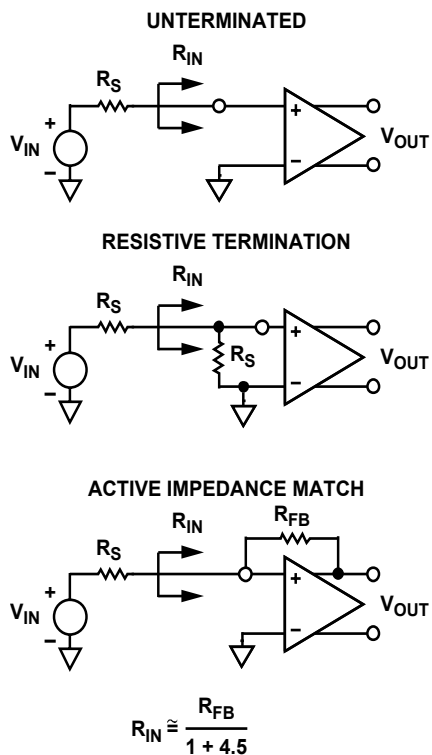
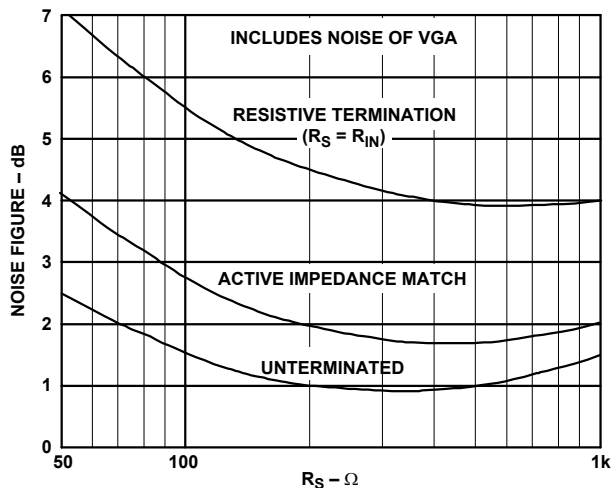
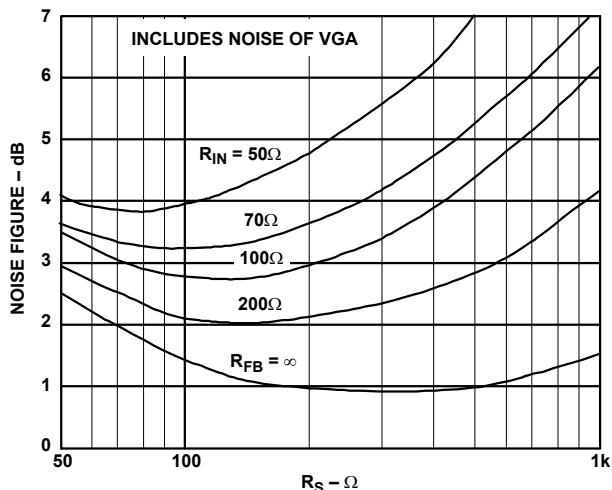

Figure 57. Input Configurations
Figure 58. Noise Figure vs. R_S for Resistive, Active Matched and Untermated Inputs
Figure 59. Noise Figure vs. R_S for Various Fixed Values of R_{IN} , Actively Matched
The input-referred voltage noise of the AD8332 sets an important limit on system performance. The short-circuit input voltage noise of the LNA is 0.74 nV/ $\sqrt{\text{Hz}}$ or 0.82 nV/ $\sqrt{\text{Hz}}$ (at maximum gain), including the VGA noise. The open-circuit current noise is 2.5 pA/ $\sqrt{\text{Hz}}$. These measurements, taken without a feedback resistor, provide the basis for computing input noise and noise figure performance in a variety of different configurations. A separate Application Note describes these in more detail, but a summary is given in Figure 57, Figure 58, and Figure 59. Unterminated ($R_{FB} = \infty$) operation exhibits the lowest equivalent input noise and noise figure. Noise figure versus source resistance plots are shown in Figure 58, rising at low R_S , where the LNA voltage noise is large compared to the source noise, and again at high R_S due to current noise. The VGA's input-referred voltage noise of 2.7 nV/ $\sqrt{\text{Hz}}$ is included in all of the curves.
The primary purpose of input impedance matching is to improve the system transient response. With resistive termination, the input noise increases due to the thermal noise of the matching resistor and the increased contribution of the LNA's input voltage noise generator. With active impedance matching, however, the contributions of both are smaller than they would be for resistive termination by a factor of $1/(1 + LNA\ Gain)$. Figure 58 shows their relative noise figure (NF) performance. In this graph, the input impedance has been swept with R_S to preserve the match at each point. The noise figures for a source impedance of 50 Ω are 7.1 dB, 4.1 dB, and 2.5 dB, respectively, for the resistive, active, and unterminated configurations. The noise figures for 200 Ω are 4.6 dB, 2.0 dB, and 1.0 dB, respectively.
Figure 59 is a plot of the NF versus R_S for various values of R_{IN} , which is helpful for design purposes. The plateau in the NF for actively matched inputs mitigates source impedance variations. For comparison purposes, a preamp with a gain of 19 dB and noise spectral density of a 1.0 nV/√Hz, combined with a VGA with 3.75 nV/√Hz, would yield a noise figure degradation of approximately 1.5 dB (for most input impedances), significantly worse than the AD8332 performance.